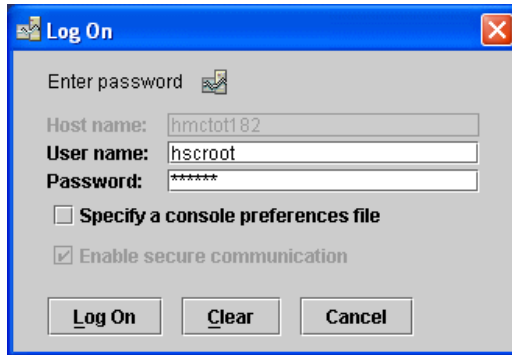

Figure 35 WebSM logon panel
- ▶ Next, go to each of your remote clients and copy the PUBLIC key ring file into the “codebase” directory under WebSM. When you log in via WebSM, you will get information if the SSL connection is available or not. Verify the checkbox “Enable secure communication” in Figure 35.